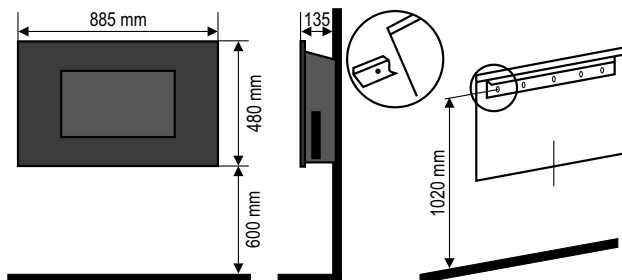

Figure 3 • 3. ábra • 3. obrázek • fig. 3. • 3. skica • 3. obrázek • Slika 3.
7. According to Figure 3, fasten the wall mount (9) horizontally to the wall at the desired location using the included screws and dowels. The recommended 600 mm installation height is not mandatory, however, the minimum height of 300 mm above the floor must be observed. The wall mount should be flush with the wall. Please take into account the wall's bearing capacity.
8. Using the 2 included small screws attach the lift-off prevention plate (10) onto the bottom of the heater so that the plate is flush with the wall surface.